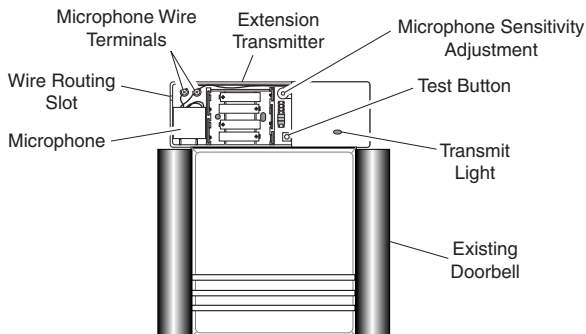

Figure 5
3. With the Extension Transmitter still in the intended location, activate the existing door chime. If the weatherproof chime sounds, proceed to step 6. If it does not sound, try different positions for the extension transmitter, or increase the microphone sensitivity (Figure 5) by turning the Microphone Sensitivity Adjustment clockwise. In some instances, it may be necessary to take the removable microphone out of the transmitter case, and mount it directly on the existing